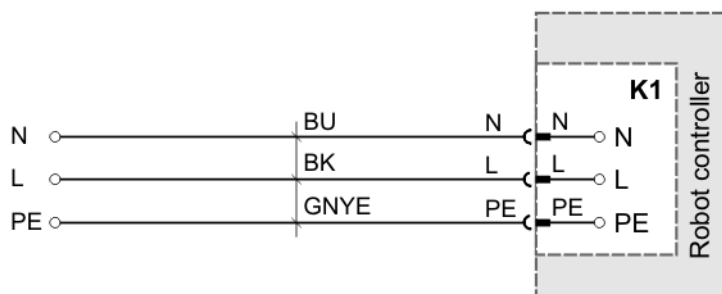

Fig. 8-3: Power supply connection
3. Connect the robot controller to a grounded-neutral power supply system in accordance with (>>> Fig. 8-3 ).
- Light blue (BU) to the neutral conductor of the power supply system
- Black (BK) to the live cable of the power supply system